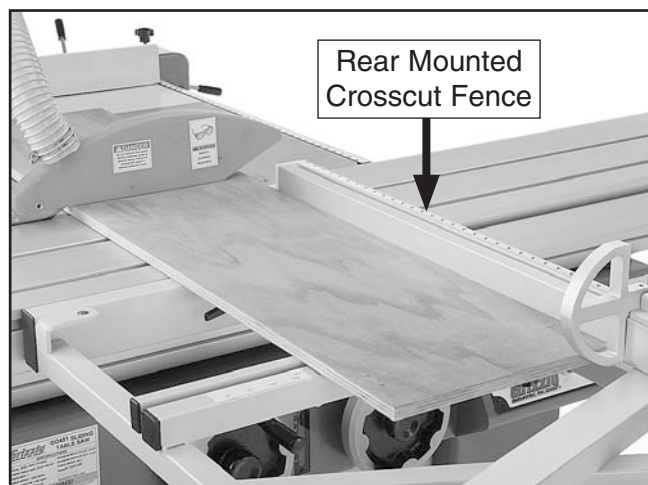

Figure 81. Crosscutting smaller panels.
Mounting the crosscut fence in the rear position (**Figure 81**) gives greater stability for crosscutting smaller panels.
4. Load the workpiece onto the table saw. The set up should look similar to **Figure 81**.